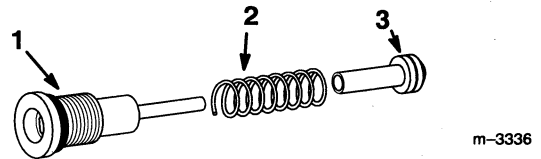

Figure 3
- Assemble new poppet check valves (Fig. 3).